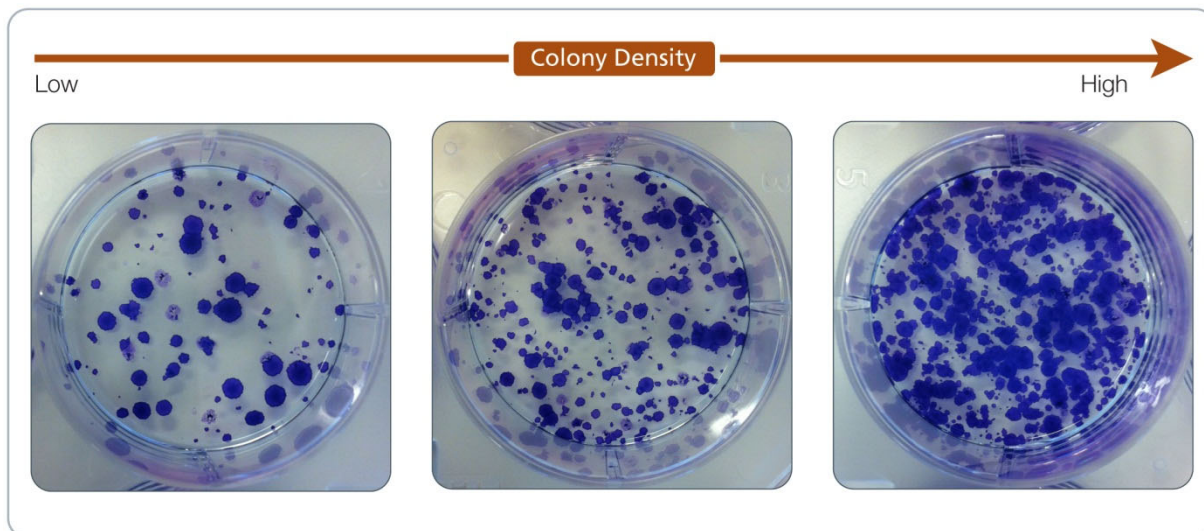

Figure 14. Example Colony Densities for Cultures Grown in TeSR™2
**For representative images see Figure 14.
The number of cell aggregates plated at the time of passaging is correlated to the colony density observed at the next time of passaging. By altering the split ratios at the time of plating, you can increase or decrease the colony density as desired. For example, a lower split ratio at the time of plating (i.e. plating more cell aggregates) will result in a higher colony density at the next passaging time. Typical split ratios are 1 in 10 to 1 in 50; however, this can vary depending on the cell line used and the individual operator. Refer to Figure 14 for a recommended range of colony densities that you should observe at the time of passage. Some cell lines may show increased spontaneous differentiation when cultured at higher densities; if increased differentiation is observed, the colony density may be decreased in the next passage by plating fewer cell aggregates. Counting cell aggregates is an alternate way to determine and adjust plating densities (see Appendix 1).